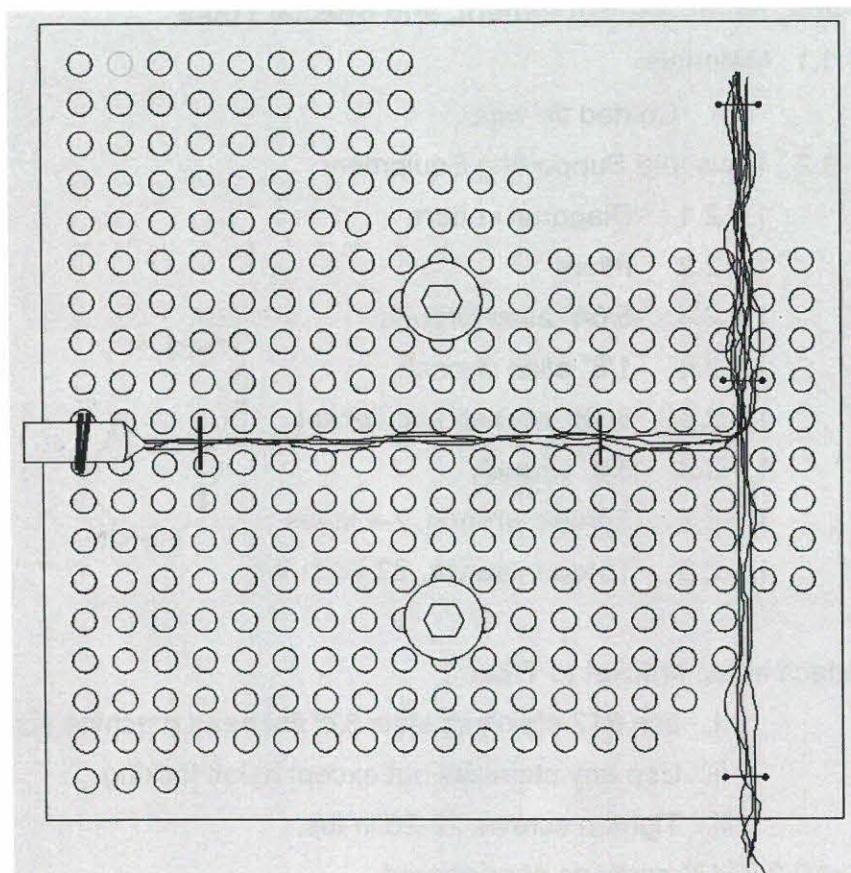

Figure 3-1 Diode layout on perfboard
- ii. Tie diodes onto protruding edges of perfboard. See Fig 3-1.